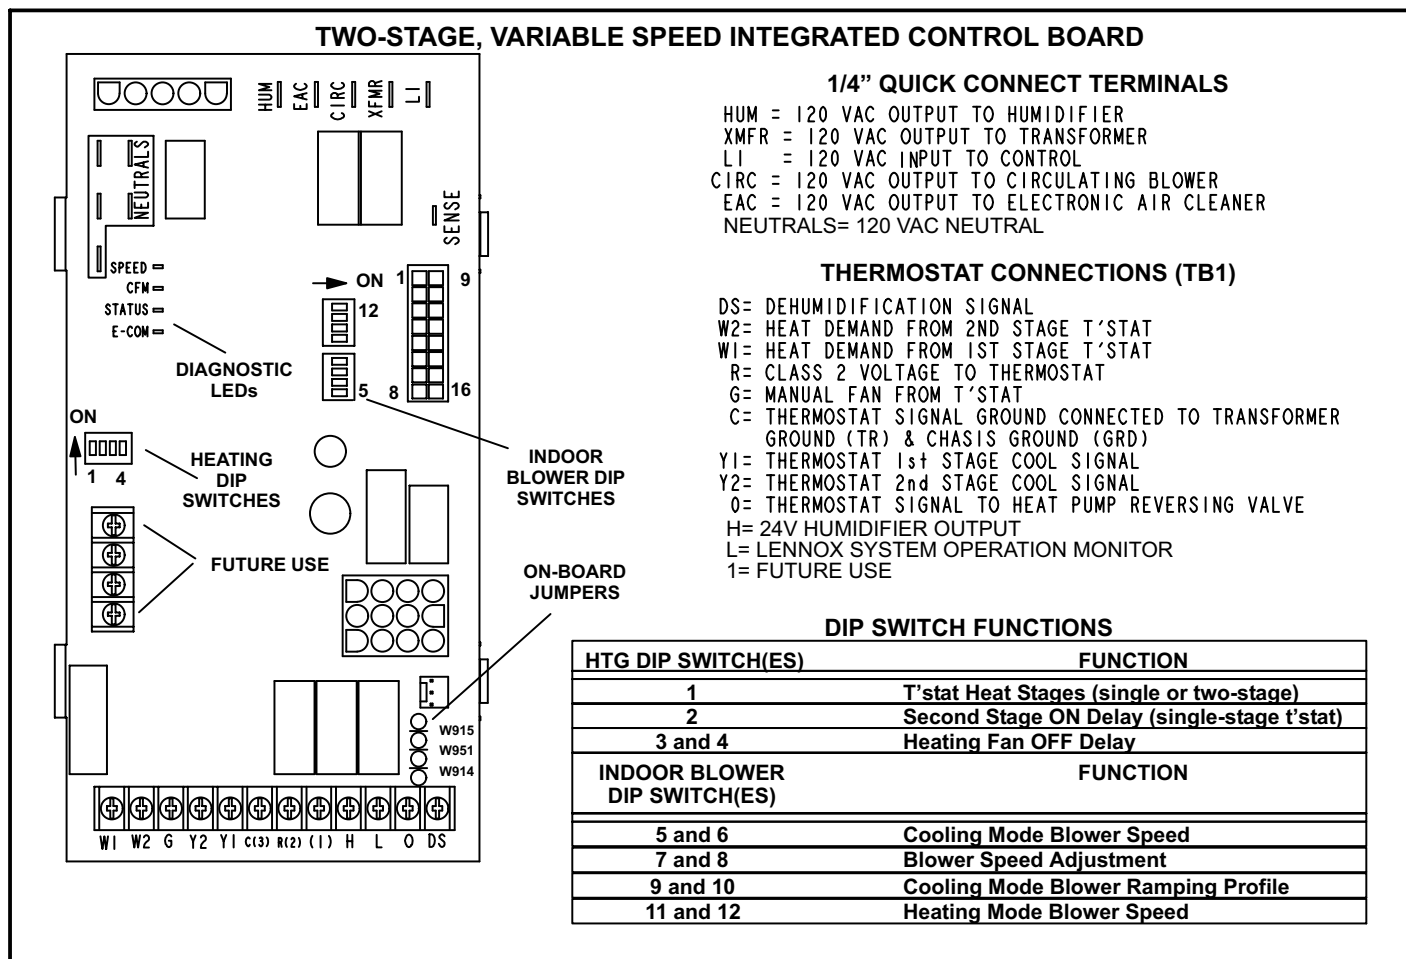

FIGURE 5
G61MPV -7 and later units are equipped with the Lennox two-stage, variable speed integrated SureLight control board. The system consists of a ignition / blower control board (figure 5) with control pin designations in tables 12, 13 and 14 and ignitor (figure 12). The board and ignitor work in combination to ensure furnace ignition and ignitor durability. The SureLight integrated board controls all major furnace operations. The board features a red LED light, for furnace status and troubleshooting. The LED flashes in "X" + "Y" codes. For example using table 15 under "PRESSURE SWITCH CODES", if the red LED flashes 2 times, then off for 2 seconds then flashes 3 times, the low pressure switch is failed open. Two green LEDs show indoor blower status and CFM. See Page 34 for more detail. The board also has two 120 volt accessory terminals rated at (1) one amp each. In addition there is a 24 volt accessory terminal located on TB1.